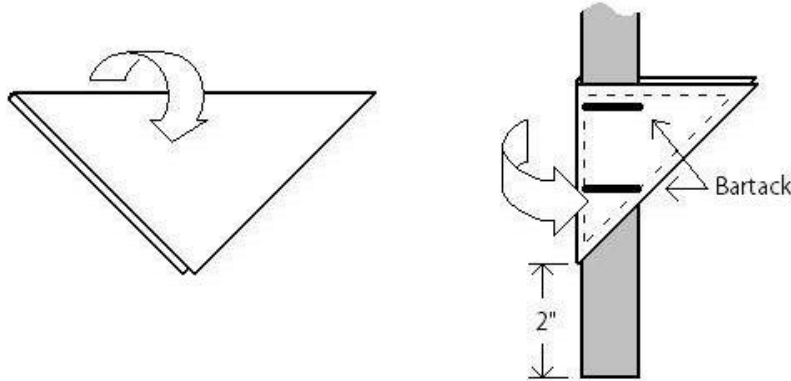

Figure 5. Shoulder strap braces.
- 2.9 Set aside the tops of the shoulder straps, and sew the 4 1/2" square shoulder strap braces (oxford cloth) onto the 20" long shoulder strap bottoms (1" webbing) as shown in *Figure 5*.